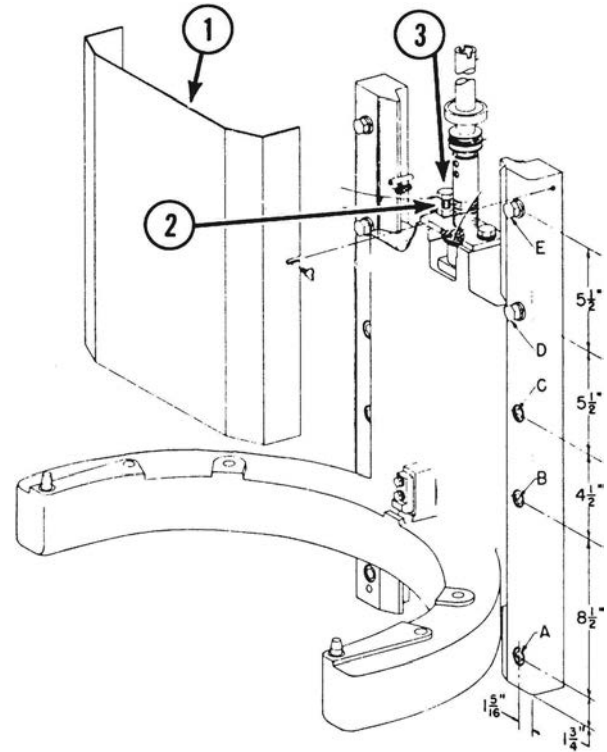

Fig. 7-2
(1) Remove the bowl apron (1, Fig. 7-2) and inner apron. (Older mixers do not have an inner apron.)
(2) Loosen the locknut (2, Fig. 7-2) and turn the stop screw (3, Fig. 7-2) clockwise to decrease the clearance or counterclockwise to increase the clearance.